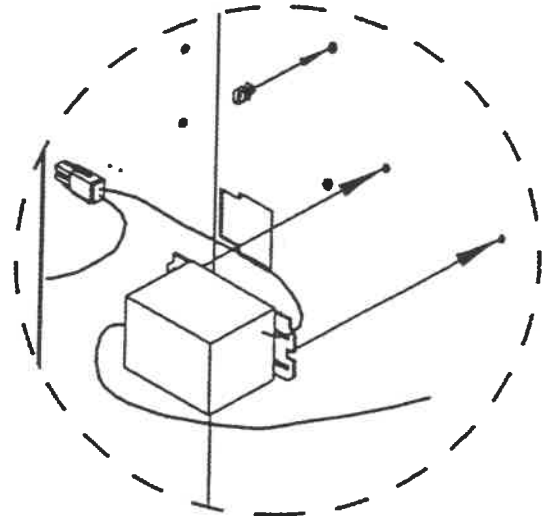

FIGURE 5
7. Using a Phillips screwdriver, install the screws as shown in figure 5. Note: The label on the ballast may be upside-down.